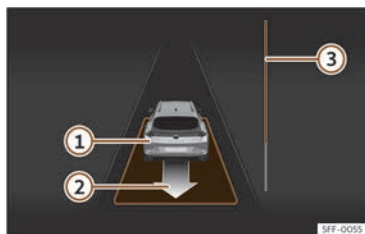

Fig. 153 On the instrument panel display: driving off from perpendicular parking.
- Reverse until the continuous ParkPilot signal sounds; **OR:** reverse until the instrument panel display shows the forward indication. The progress bar >>> **Fig. 153** ③ indicates the distance to cover.